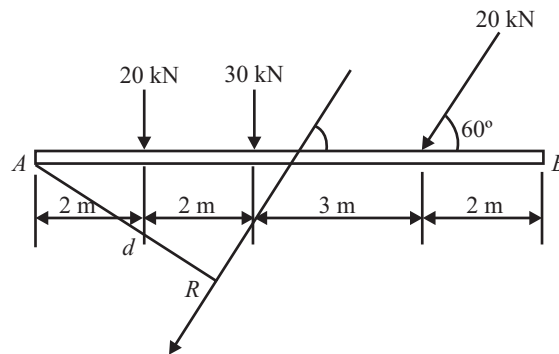

Fig. 7.31
Q. 28: A system of loads acting on a beam is shown in fig. 7.31. Determine the resultant of the loads.